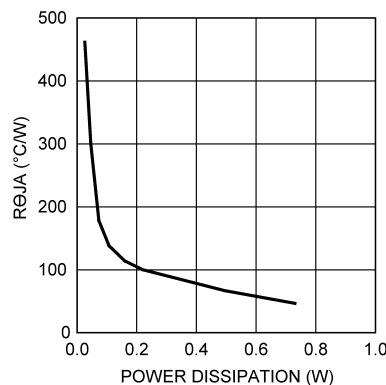

Figure 15.  $R_{\theta JA}$  vs Internal Dissipation
**Note:** To use these procedures it is important to dissipate an amount of power within the device that will indicate a true thermal impedance value. If one uses a very small internal dissipated value, one can see that the thermal impedance calculated is abnormally high, and subject to error. Figure 15 shows the nonlinear relationship of internal power dissipation vs .  $R_{\theta JA}$ .